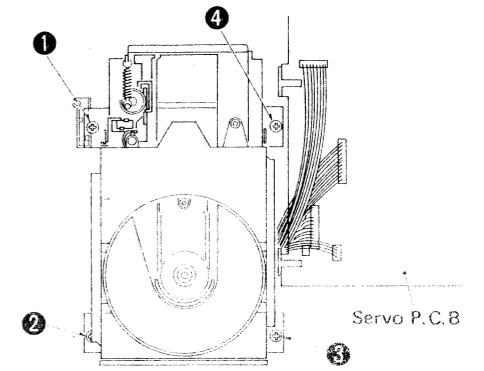

Fig. 31
3. Remove the 4 traverse unit setscrews. [Fig. 31]